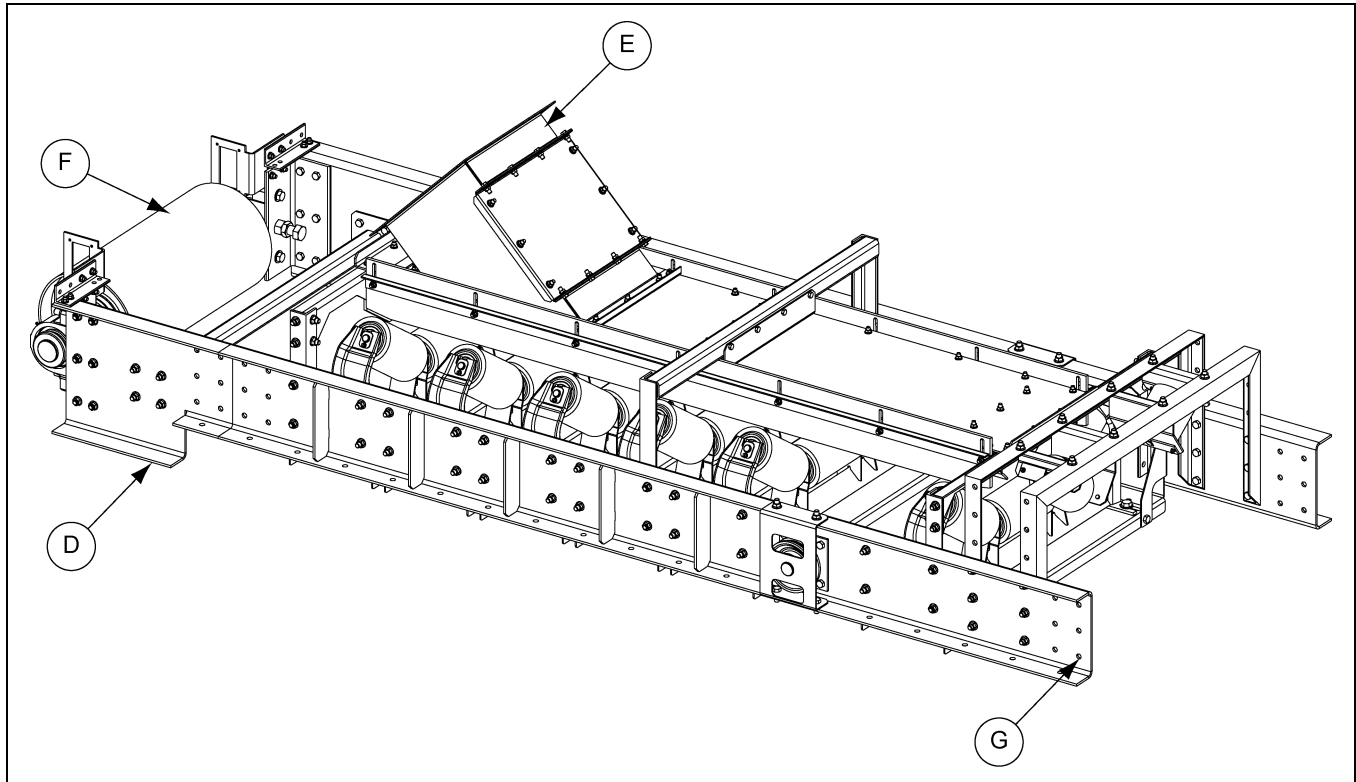

Figure 4B Tail Section
The tail section (D) together with loader section (E) must be properly supported so there is no vertical or horizontal movement of the inner box of the loader section (E). (See Figure 4B.)